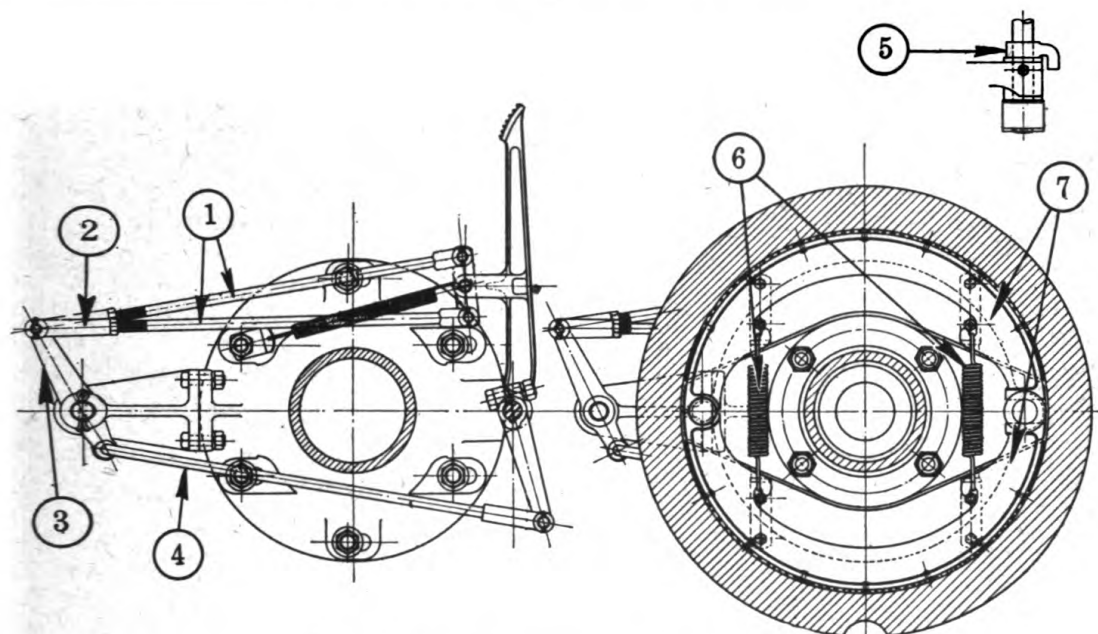

Fig. 38. Adjustment of Foot Brakes
As the brake linings wear, the foot pedal will be depressed further before applying the brakes. Before this travel becomes so great that the foot pedal travels to the end of its guide, the rod shown as 1, Fig. 38 that connects to the equalizer bar and foot pedal should be shortened.
To adjust the brakes, loosen both the right and left brake stops shown at 5, Fig. 38. Then disconnect clevises (2) from levers (3) and screw the clevises (2) further into the rods (1). When making this adjustment be careful that each rod is taken up approximately the same amount. This is necessary in order to keep the levers (3) in line or nearly so. Be sure to tighten the nuts on the rods against the clevises (2) when final adjustment is made.